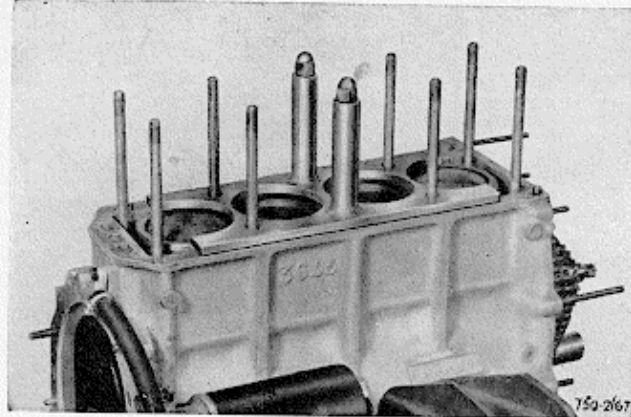

Fig. 67 - Plate No. 6121.01.177 for fixing cylinder liners when taking off the pistons
- 1) As shown in fig. 67, insert the liner fixing tool No. 6121.01.177 over the studs holding the cylinder-head to the crank-case, and extract the whole of the piston and its connecting-rod from the top.